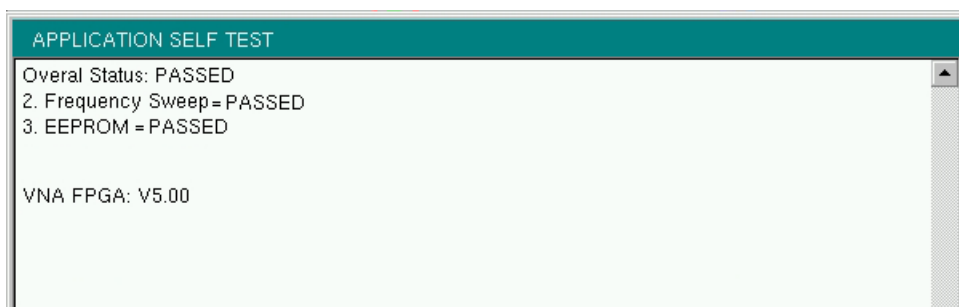

Figure B-2. Application Self Test
To run the application self test, press **Shift** and **System** (8) and then Application Self Test from within the desired mode. When you are in Vector Network Analyzer mode, you will see the results window that is shown in Figure B-2 (note that your instrument display may differ from this image). It summarizes the status of several key functions that are specific to this application.